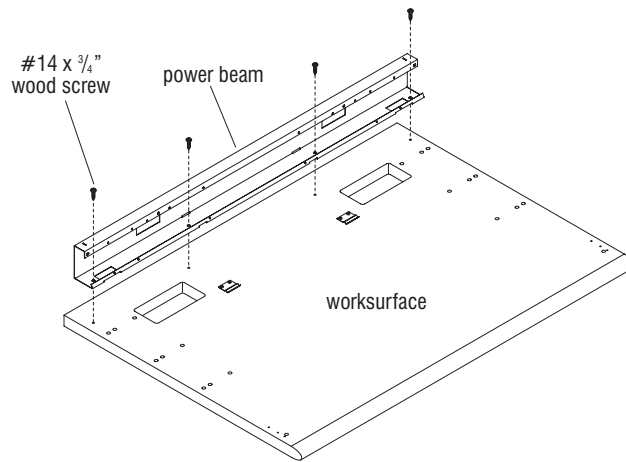

Figure 1
2. Attach power beam to underside of worksurface using #14 x 3/4" wood screws. Extended T-30 Torx Driver is provided to drive screws (Figure 1).